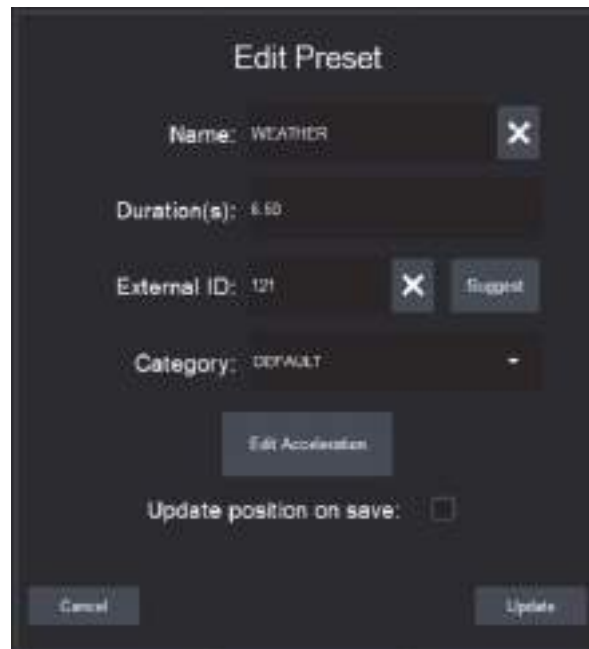

Figure 28 - Edit Preset dialog box
3. Tap the **Edit** button. The **Edit Preset** dialog box appears (Figure 28).